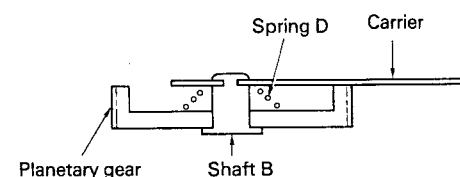

Fig. 15
- Turning on the eject switch reverses the capstan motor. As shown in Fig. 15, spring "D" places slight friction on the planetary gear which causes it to engage with the inside-cog sun gear. The cassette tape is ejected following an operation opposite to the loading operation.